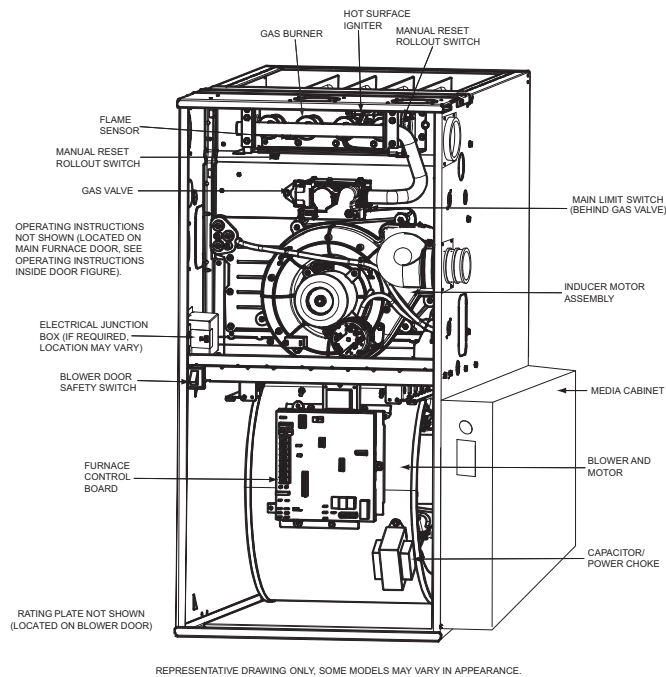

Fig. 20 - Component Location
6. Turn electric switch on gas valve to OFF. See Fig. 20.